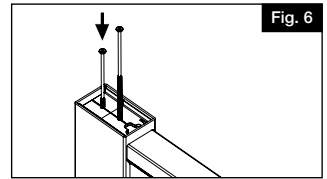

Fig. 6
Install two 6" screws (provided) through each upright insert and into the rail using the molded grooves on the insert as a guide (Fig. 6).
- Slide brackets onto top rail and place on top of vertical tongue and groove boards (Fig. 6).
- Mount brackets to posts using included (4) 1.5" screws per bracket. Insert white screw head caps to hide screws (Fig. 6).